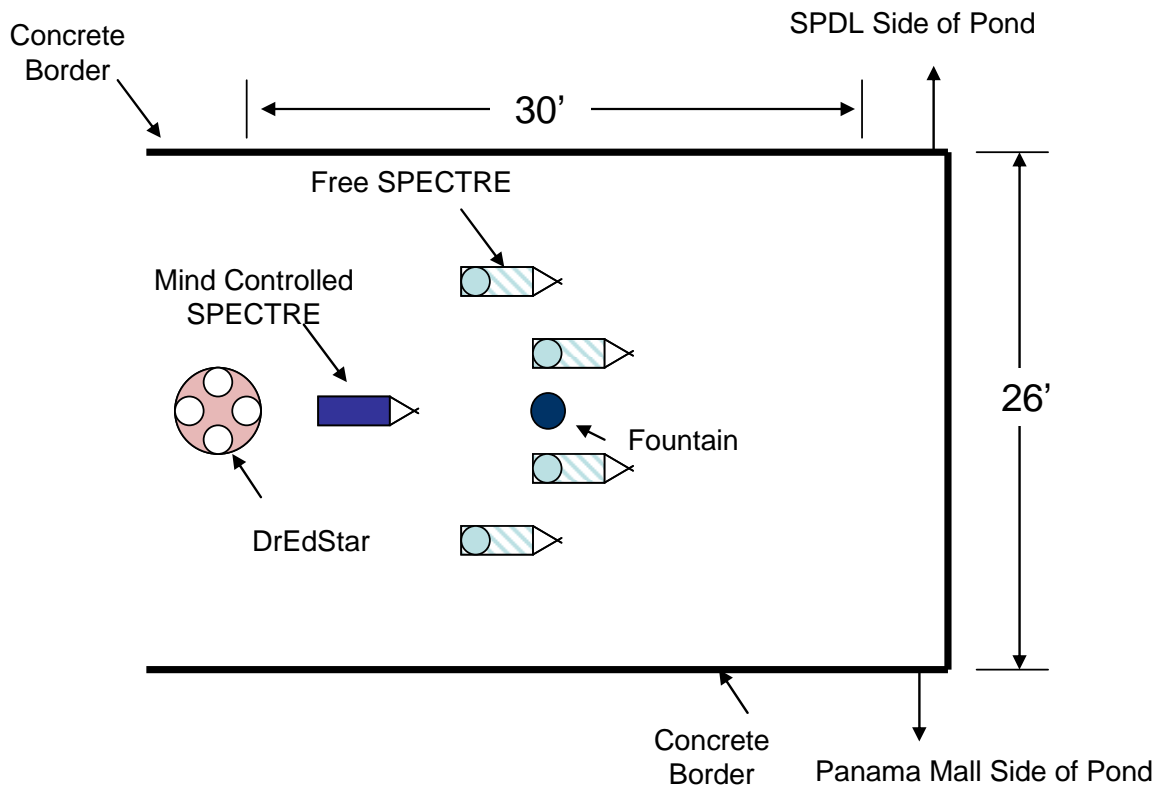

Figure 1: Field layout and dimensions with sample initial configuration
- The Field is comprised of a region at the West end of DrEd Swamp, initially measuring approximately 26 ft. wide by 30 ft. long (see Figure 1). One fountain spout will be located at the approximate center of the Field.
- At the beginning of each game all participating SPECTREs will be placed in a physical arrangement at the whim of the teaching staff. One possible arrangement is shown in Figure 1.
- The DrEdStar will be floating freely in the swamp; one possible configuration is shown in Figure 1.